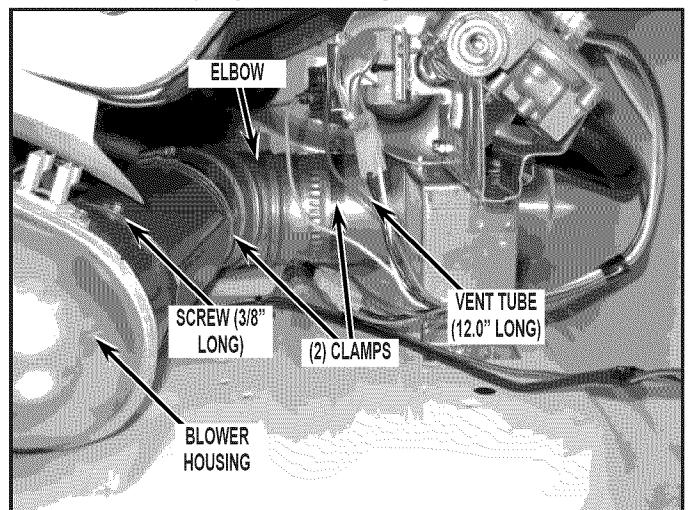
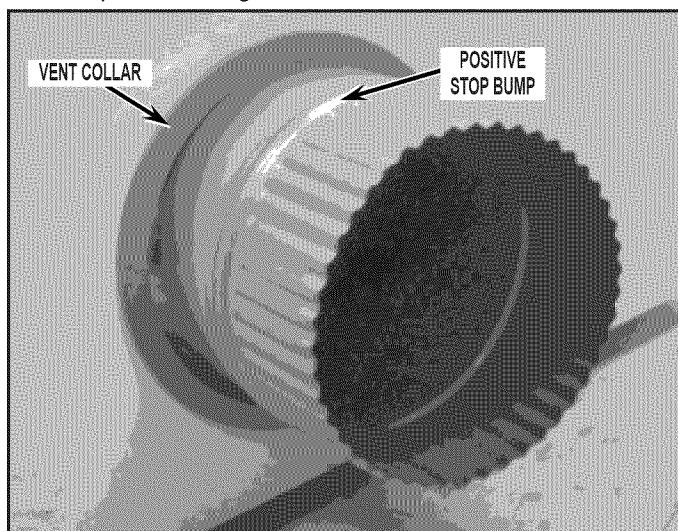

FIGURE 22
FIGURE 23
- Assemble the 305 mm (12.0") long vent tube and elbow from kit together using clamp included in kit. Tighten clamp to hold sub assembly together. See *Figure 22*.
- Insert the sub-assembly from Step 4 through the dryer front and into the right side panel knockout hole, rib-end facing out. Slide a clamp onto the elbow and insert the 187 mm (7.40") vent tube from the kit into the elbow. See *Figure 22*.
- From the outside of the dryer, install the exhaust vent collar included with kit by sliding over exhaust vent tube and snap into place. See *Figure 23*.
- Assure the positioning of the exhaust vent assembly, making sure the positive stop bump on the 305 mm (12.0") long vent tube is on the outside of the dryer. See *Figure 23*. Securely tighten both clamps. See *Figure 22*.